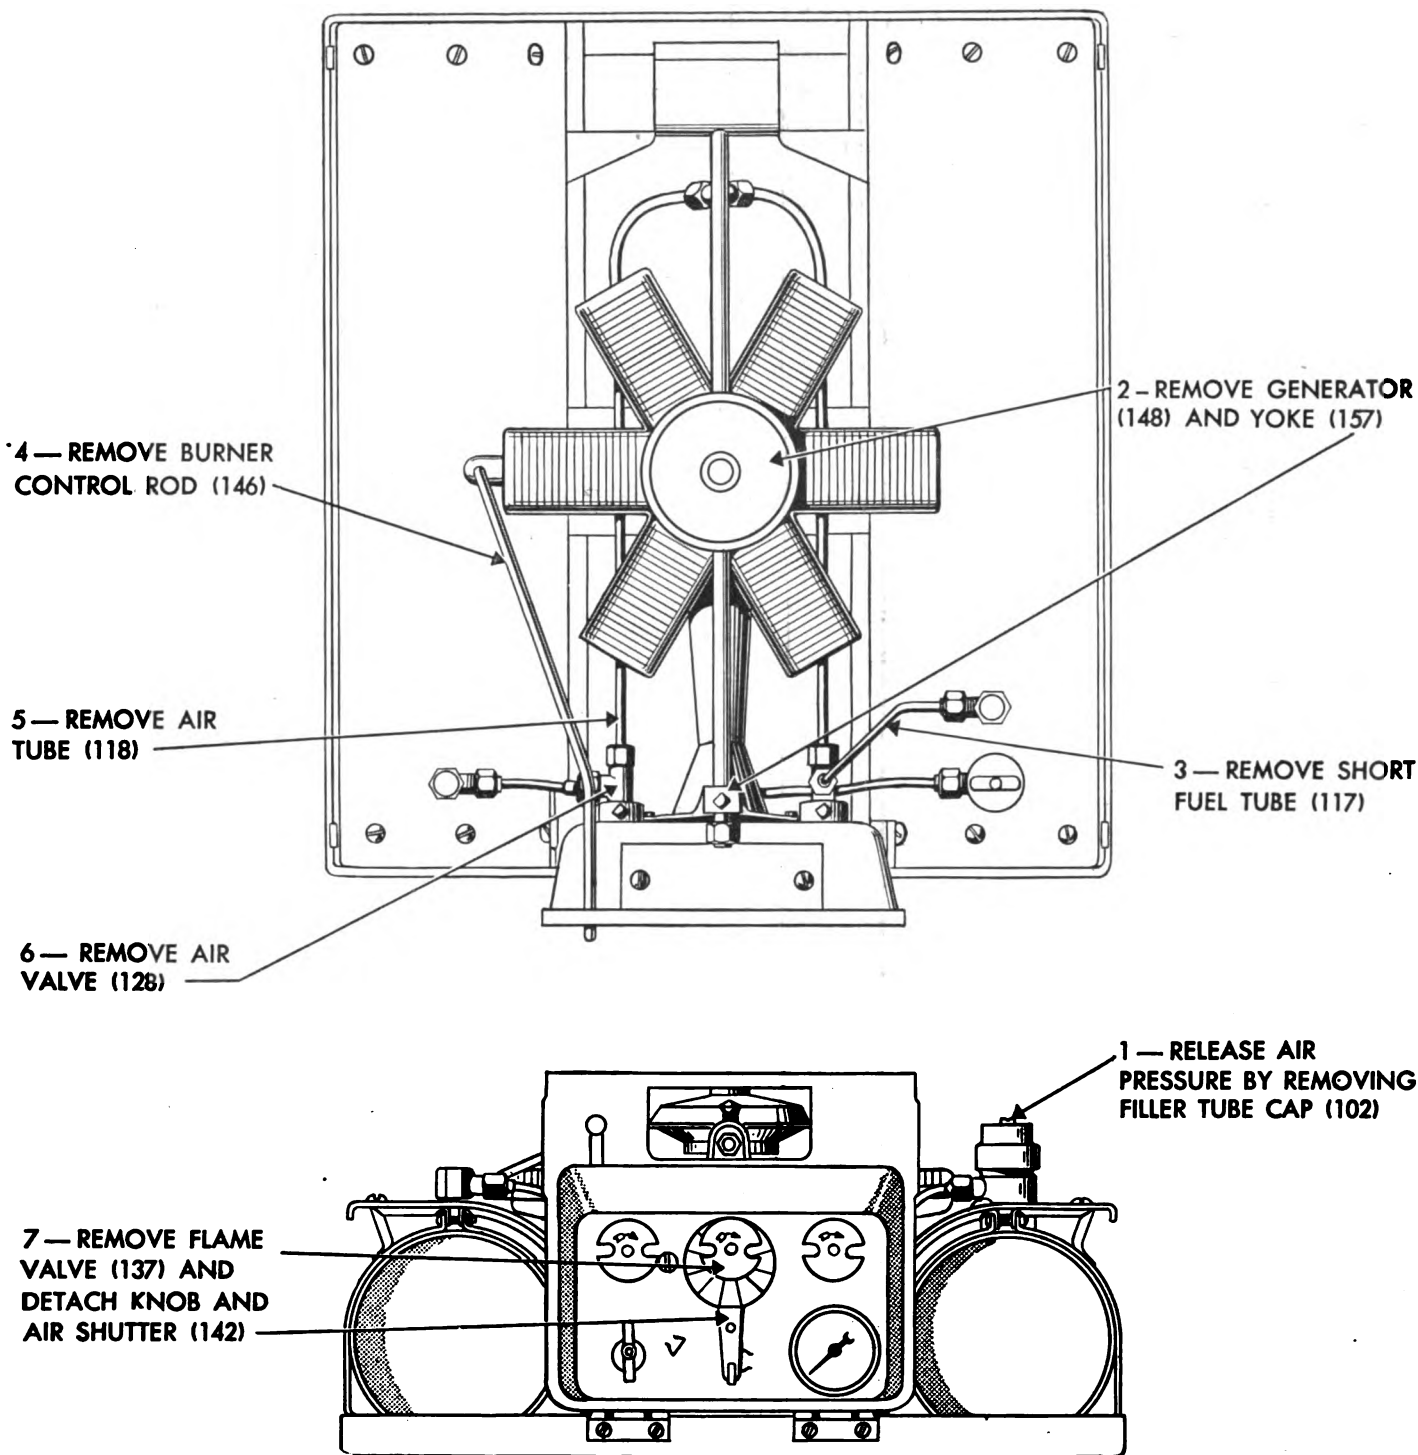

Figure 50. Dismantling unit, fire M1937, to install set, conversion, No. 2 (simplified).
(1) The original type filter disk must be replaced at frequent intervals. The conversion generator-filter will operate from 200 to 300 hours.
(2) The original generator and filter need to be cleaned after about 18 hours of operation. The conversion filter tube leading to the flame valve and the flame valve assembly need cleaning only after 50 or more hours of operation.
c. DISMANTLING OF FIRE UNIT FOR INSTALLATION OF CONVERSION SET NO. 2 (SIMPLIFIED). (See fig. 50). (1) Release all air pressure by slowly remov-